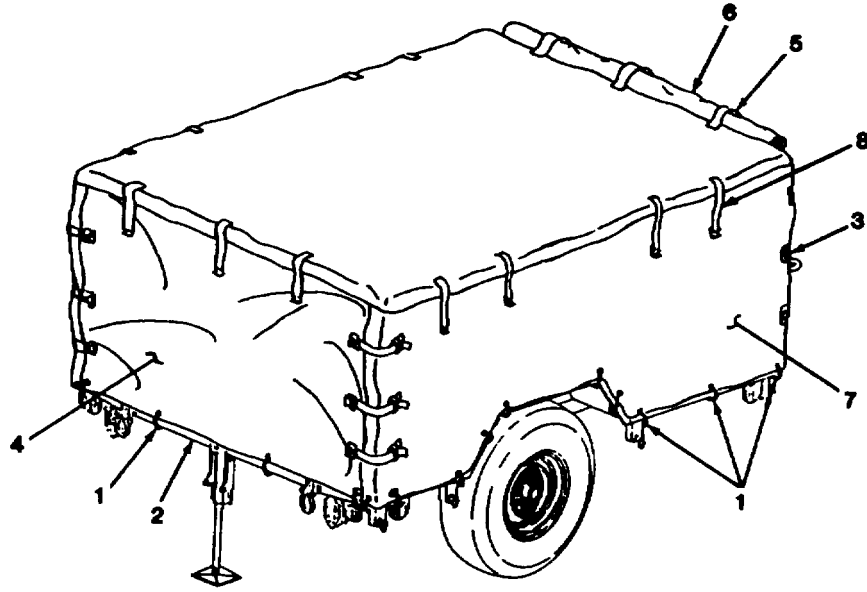
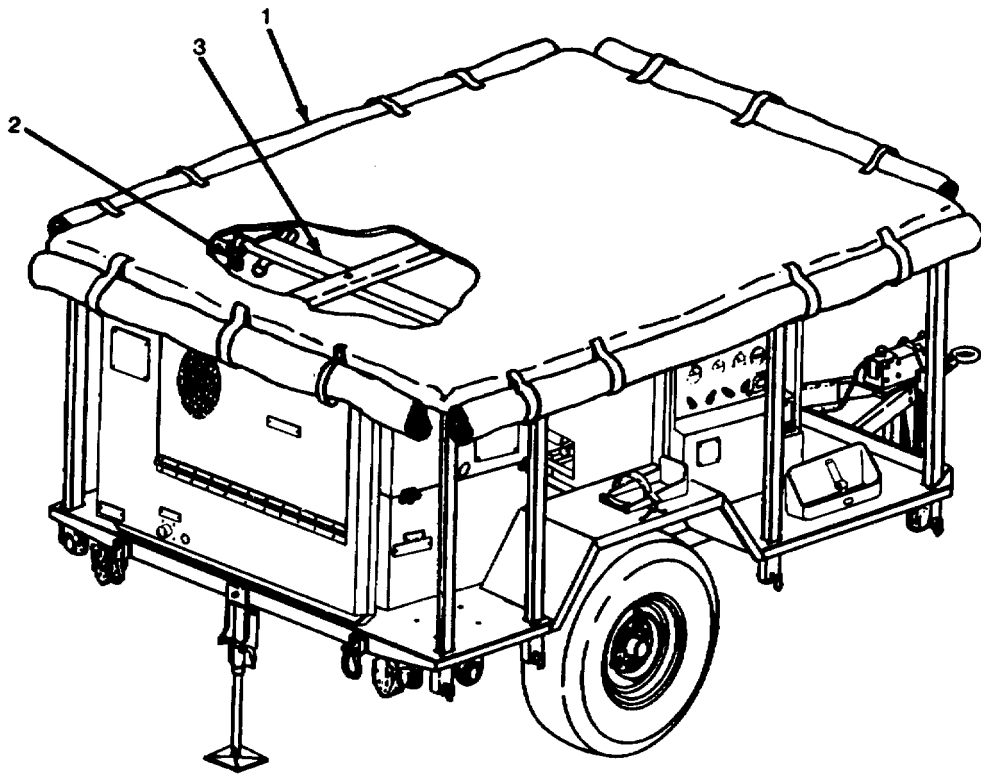

Figure 3-1. Tarpaulin Installed on AN/MJQ-33.
Figure 3-2. Tarpaulin Rolled Up for Removal on AN/MJQ-33.
**a. Tarpaulin Replacement. (See Figures 3-1 and 3-2.)****(1) Removal.**
- (a) Untie 25 ropes (1, figure 3-1) fastening tarpaulin to trailer body (2).
- (b) Unfasten six straps and buckles (3) securing rear curtain (4). Roll up curtain, and secure with three roll-up straps (5) provided.
- (c) Unfasten six straps and buckles (3) securing front curtain (6). Roll up curtain, and secure with three roll-up straps (5) provided.
- (d) Roll up each side (7) of tarpaulin, in turn, and secure each side with four roll-up straps (8) provided.
- (e) Working under tarpaulin (1, figure 3-2), unfasten eight straps (2) securing tarpaulin to bow assemblies (3). Remove tarpaulin.
**(2) Installation.****NOTE**
- (a) Position tarpaulin (1, figure 3-2) on top of bows (3) making certain front of tarpaulin is at front of trailer.
- (b) Secure tarpaulin (1) to bow assembly (3) with eight straps (2) provided.
- (c) Unfasten roll-up straps (8, figure 3-1) securing sides (7) of tarpaulin and lower both sides.
- (d) Unfasten roll-up straps (5) securing front and rear curtains (4, 6) and lower both curtains.